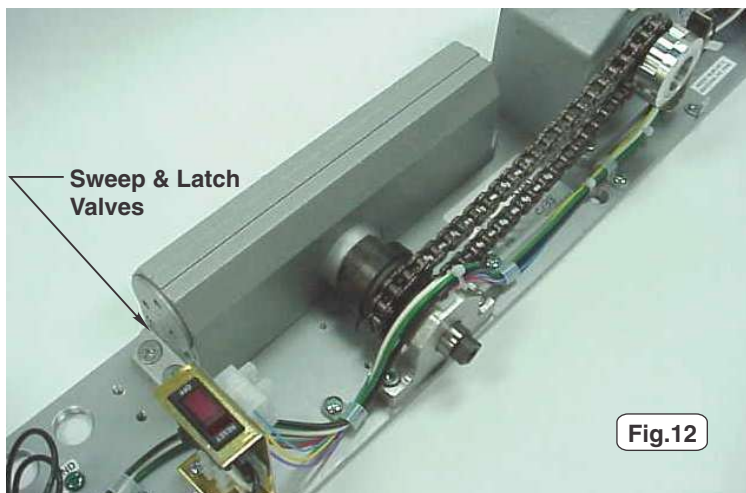

Fig.12
16. Replace and tighten closer body screws removed in step 12. See fig. 12.